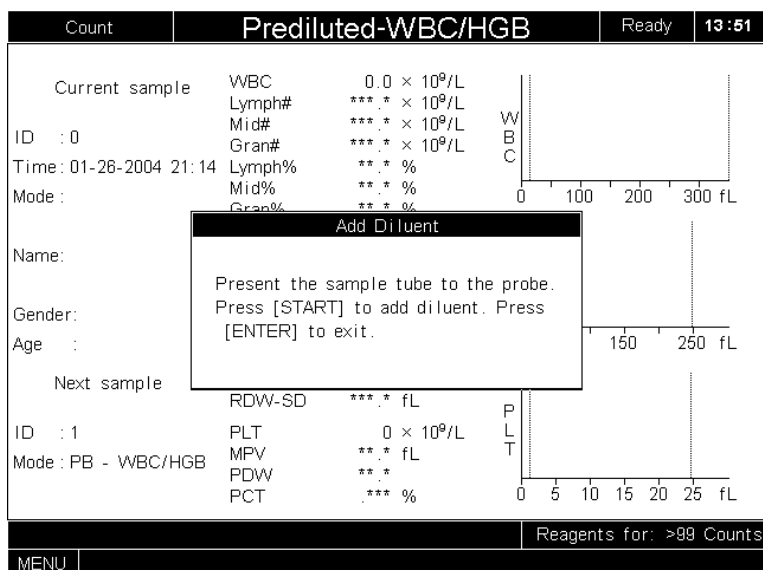

Figure 3-9 Add Diluent screen
2. Press [DILUENT] to enter the **Add Diluent** screen, as Figure 3-9 shows.